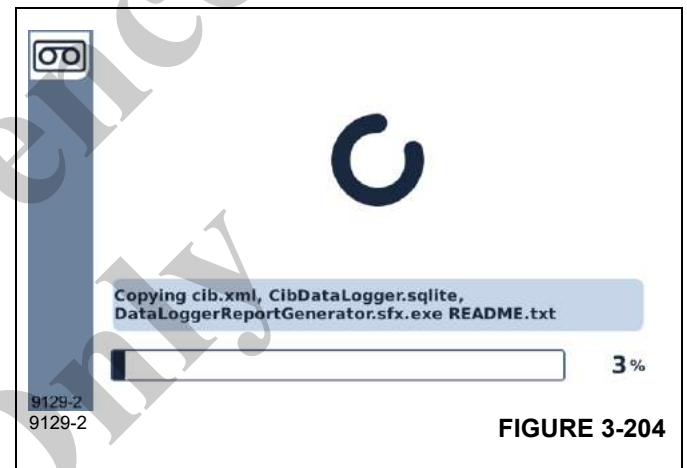

FIGURE 3-204
3. Press USB Button once drive is detected to start download (Figure 3-204).